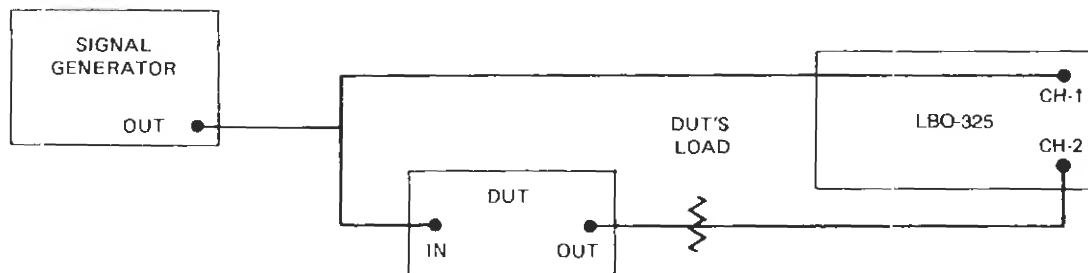

Figure 2-21. Test setup for distortion comparison and phase measurement
Phase difference or phase angle between two signals can be measured using the dual trace feature of the oscilloscope or by operating the oscilloscope in the X-Y mode. When measuring phase shift or signal-processing devices, the test setup shown in Figure 2-21 can be used.
1. Connect the output of a signal generator (of frequency suitable to the device under test) to the CH 1 or X IN connector (9) and the input of the Device Under Test (DUT).
2. Connect the CH 2 or Y IN connector (10) to the output of the device or its load (see Figure 2-21).
4. If the DUT has reversed the phase, press the CH 2 INV pushbutton (17).
5. Superimpose the two traces with the Vertical Position controls (14) and (15), and use the VARIABLE control (12) of the **highest** amplitude trace to achieve the best trace match.